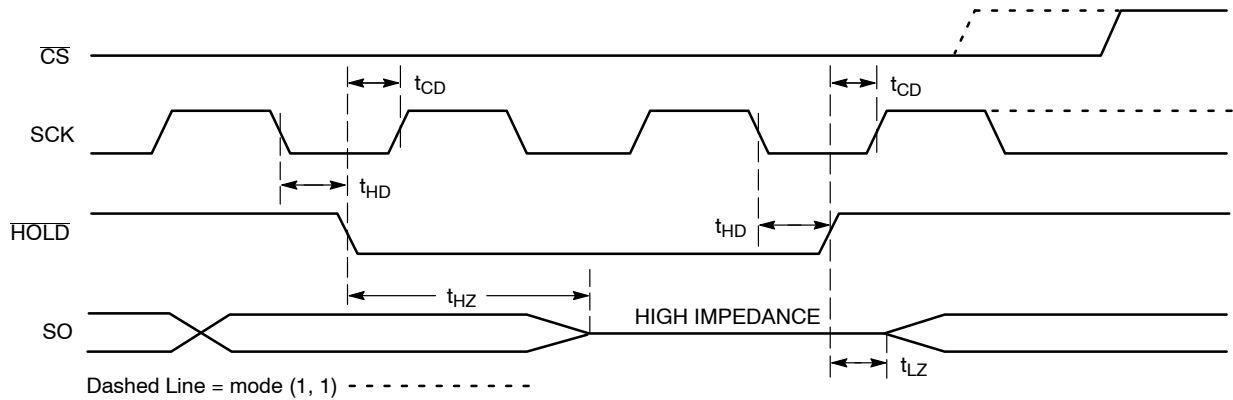

Figure 11.  $\overline{\text{HOLD}}$  Timing
The  $\overline{\text{HOLD}}$  input can be used to pause communication between host and NV25010/20/40. To pause,  $\overline{\text{HOLD}}$  must be taken low while SCK is low (Figure 11). During the hold condition the device must remain selected ( $\overline{\text{CS}}$  low). During the pause, the data output pin (SO) is tri-stated (high impedance) and SI transitions are ignored. To resume communication,  $\overline{\text{HOLD}}$  must be taken high while SCK is low.